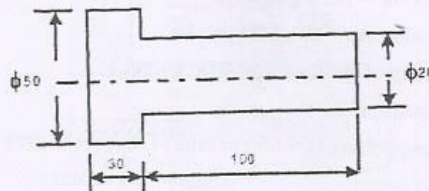

Fig.7
16. (a) Two hundred components as in Fig.7. are to be made by upsetting a 20 mm diameter bar.